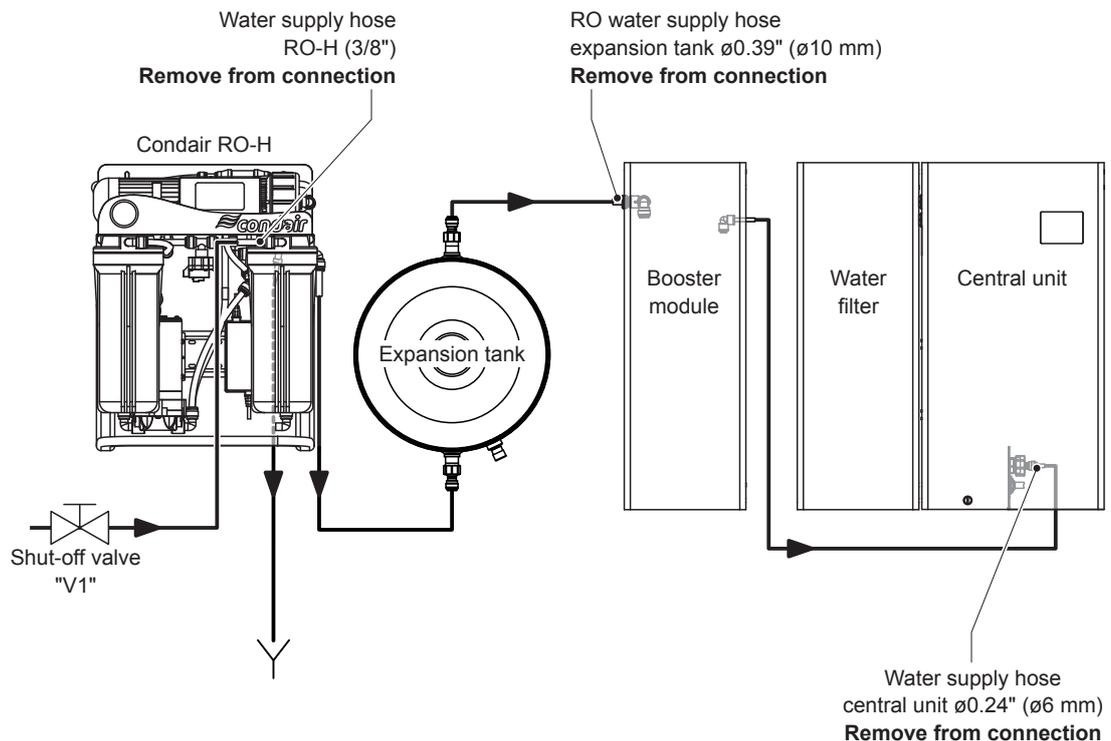

Fig. 76: Removing the hoses
2. Make sure that the water system is depressurized (see Section 7.1.5.1). Then disconnect the hoses marked in Fig. 76.
23. Open the shut-off valve "V1" in the water supply line to the reverse osmosis unit Condair RO-H (see Fig. 76). The filter housings are filled and the system is pressurized.